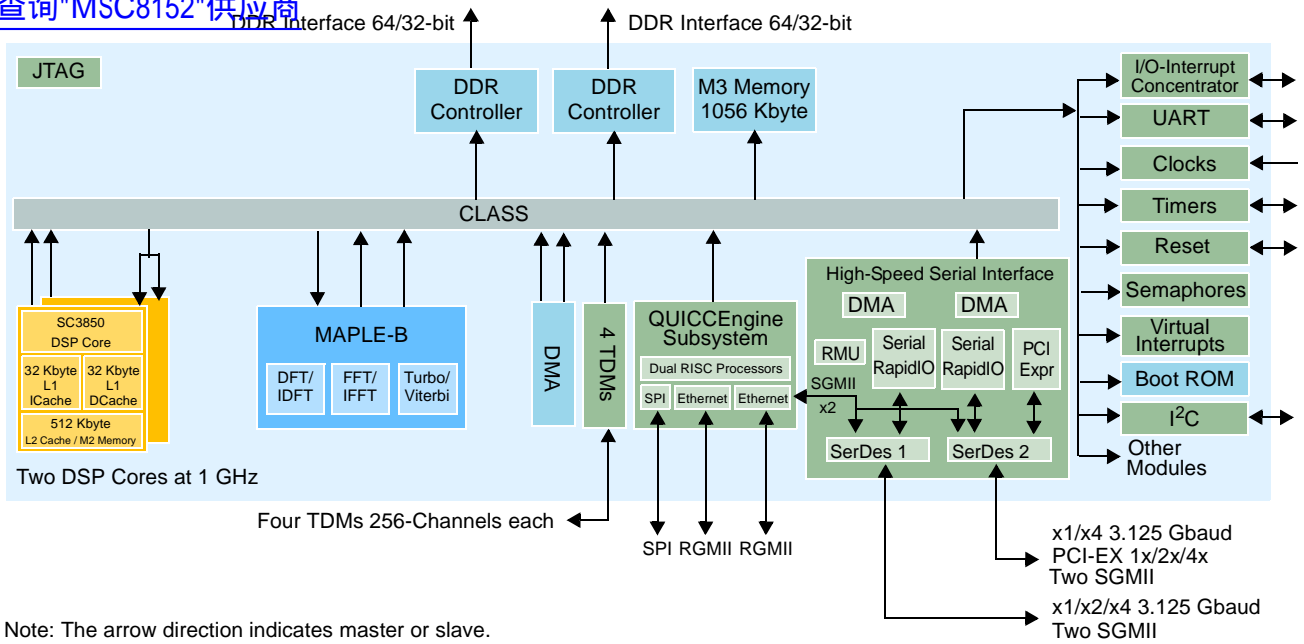

Figure 1. MSC8152 Block Diagram
- Figure 1. MSC8152 Block Diagram 3